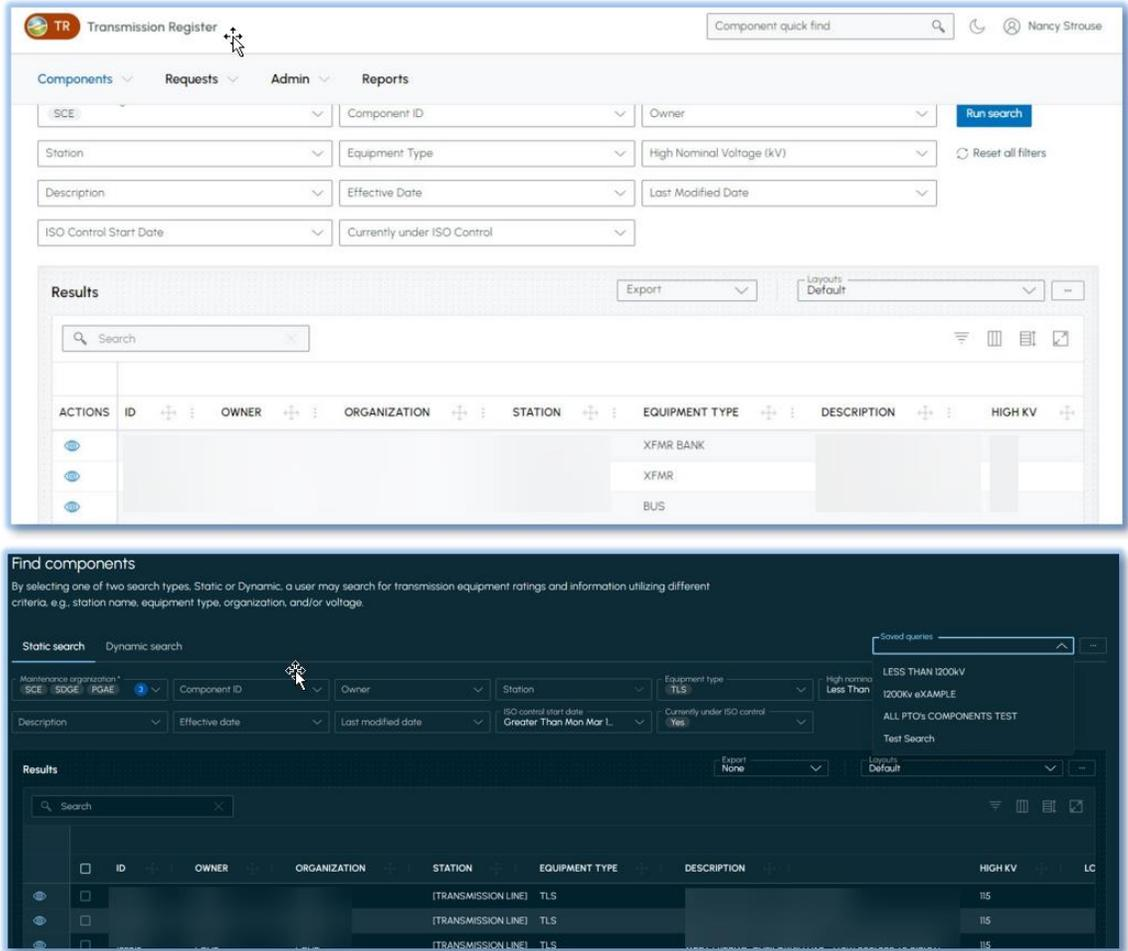

Figure 9 Static Search Results
- 8) Type in the Effective Date or select the Effective Date by clicking on the date icon shown in Figure 9. A calendar displays.
- ii. Select the left-hand column parameters for the Effective Date shown in figure 9.